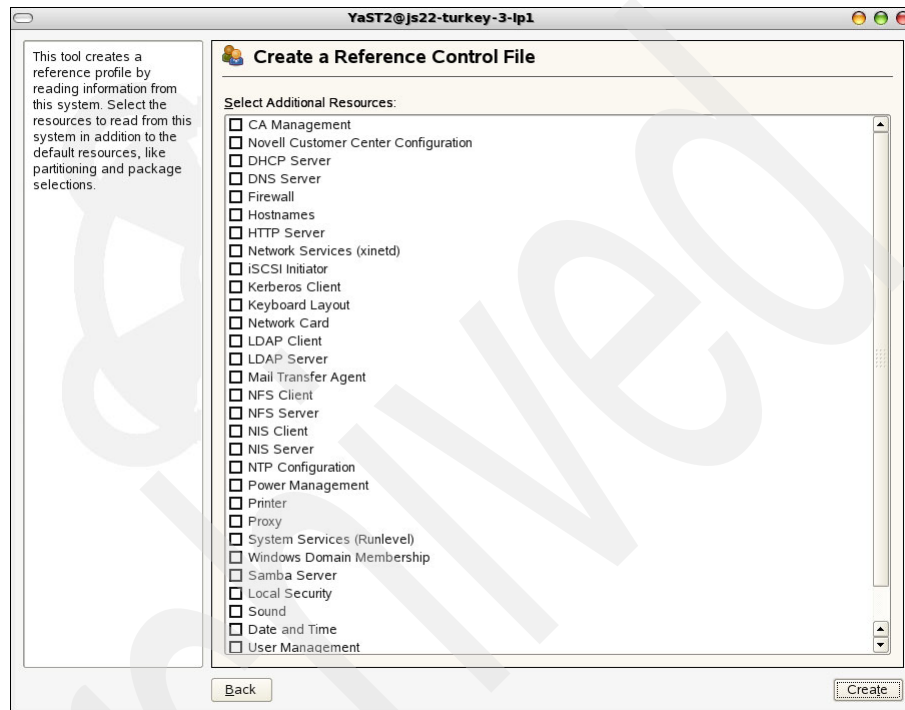

Figure C-6 Selecting additional resources
4. A second window opens, as shown in Figure C-6. In addition to the default resources such as boot loader, partitioning, and software selection, it is possible to add other aspects of your system to the profile by checking items in the Select Additional Resources section. When ready, click **Create** so YaST can collect the system information and create the AutoYaST profile.